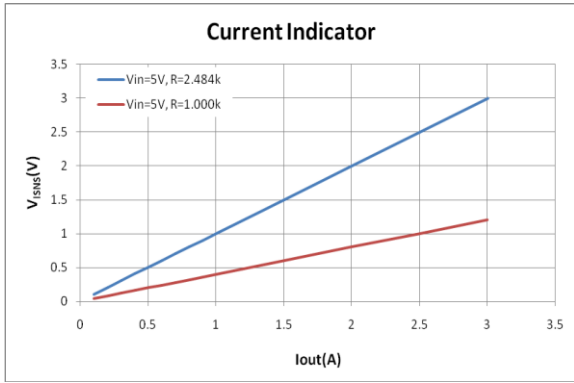

Fig. 3 Relationship between V_{ISNS} and I_{OUT} with different R_{SNS}
A precision current monitor output provides a voltage proportional with the current flowing through the device at the ISNS pin. The internal current source is configured to be proportional to the current flowing through the power switch. Connect a resistor R_{SNS} from ISNS to GND. The voltage at the ISNS pin can be estimated as shown in equation (2). The voltage rating of this pin is 6V and the SY20805 has an internal default current limit of approximately 5A. It is recommended to use a R_{SNS} resistor value lower than the value calculated using the equation (3). When the current exceeds the default current limit, the power FET will switch off and restart automatically. The rated accuracy of 5% is achieved at output currents above 1A. A better than 7% accuracy is achieved at 0.5A output current, as shown in Figure 3. and Figure 4. respectively.